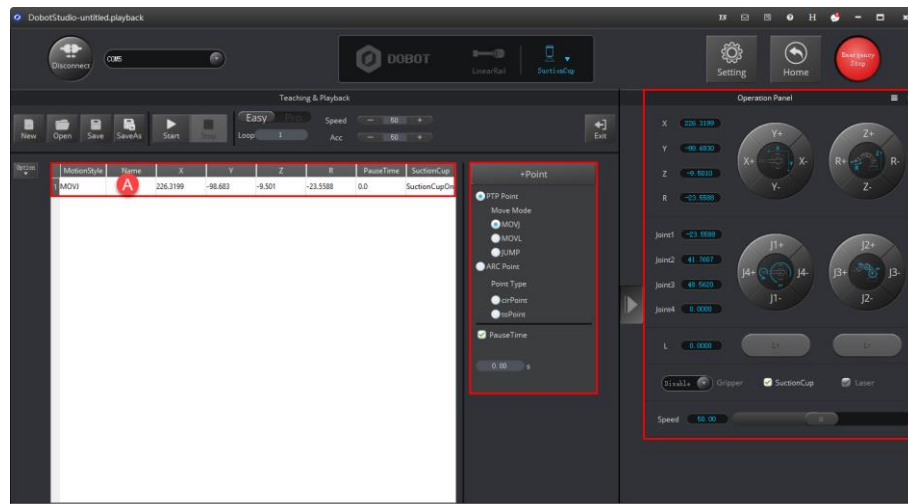

Figure 5.28 Save the start position A
8. Click **+Point** to save the coordinate corresponding to the position A, as shown in Figure 5.28.